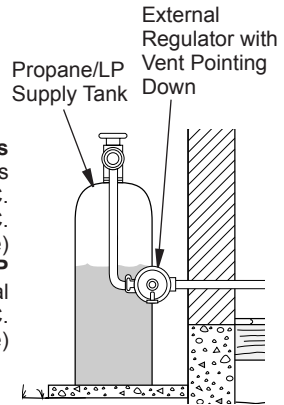

Figure 15 - External Regulator with Vent Pointing Down
For propane/LP gas, the installer must supply an external regulator. The external regulator will reduce incoming gas pressure. You must reduce incoming gas pressure to between 11" and 14" of water. If you do not reduce incoming gas pressure, heater regulator damage could occur. Install external regulator with the vent pointing down as shown in Figure 15. Pointing the vent down protects it from freezing rain or sleet.
1. Open equipment shutoff valve (see Figure 15, page 17).